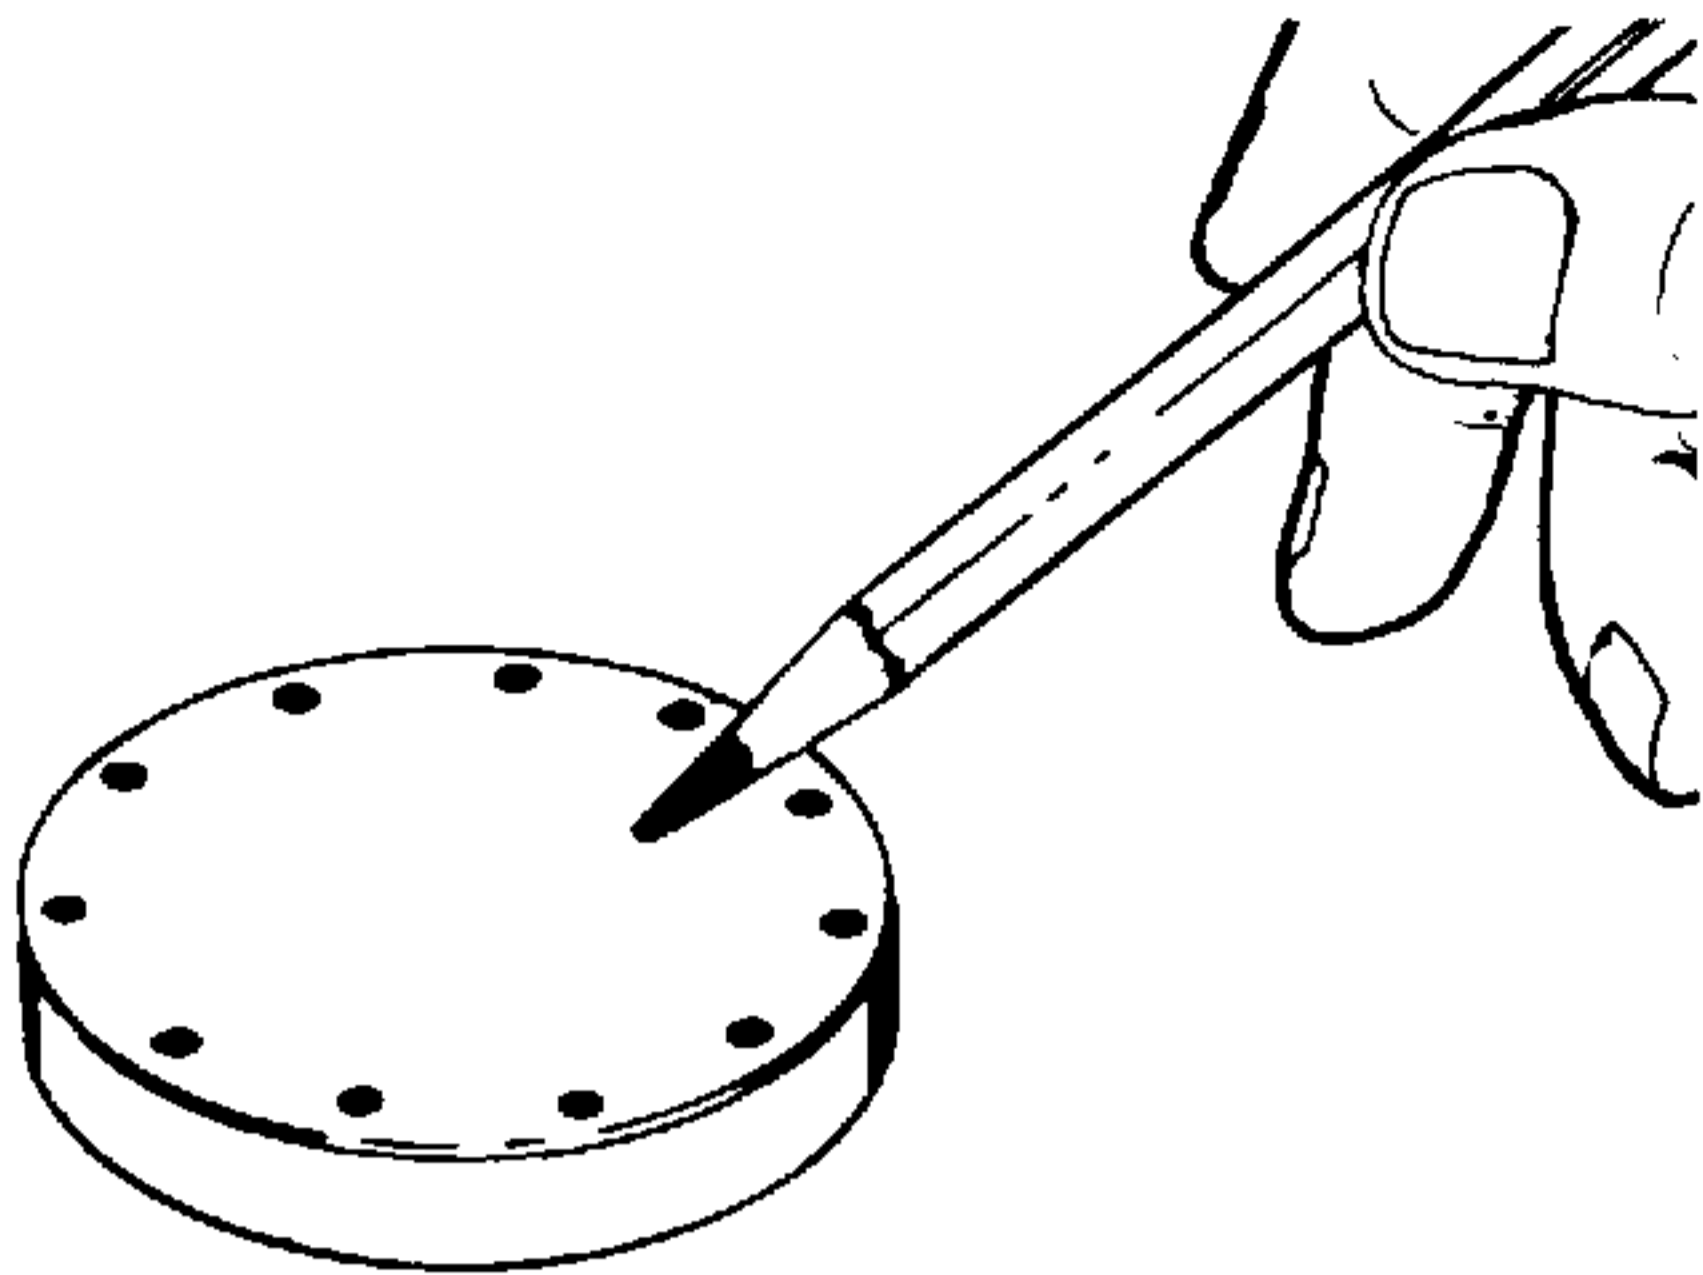

Figure 4-31. Inspecting the Rotor Side of the Drive Plate.
37. The rotor side of the drive plate (24) should show the normal spiral pattern due to rotor movement. Inspect the thrust bearing side of the plate for brinelling (dents) or spalling (flaking). The flat sides of the input shaft engagement hole should not be grooved or worn. If any of these conditions are present, the drive plate (24) must be replaced. See Figures 4-31 and 4-32.